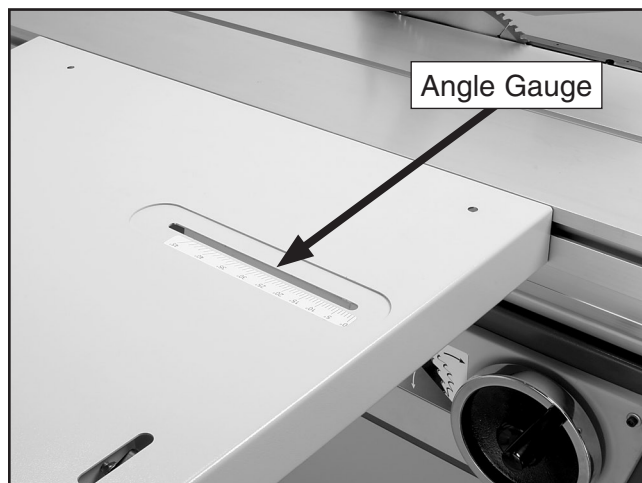

Figure 64. Crosscut table angle gauge.
3. Set the fence to the desired angle using the crosscut table angle gauge and lock the angle with the crosscutting fence knob (see **Figure 64**).